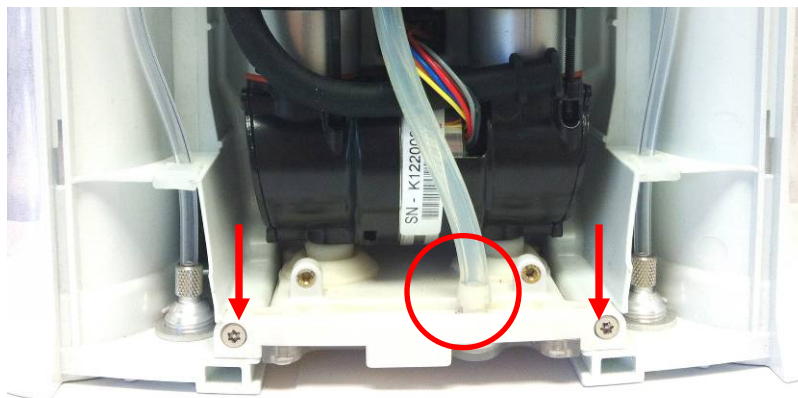
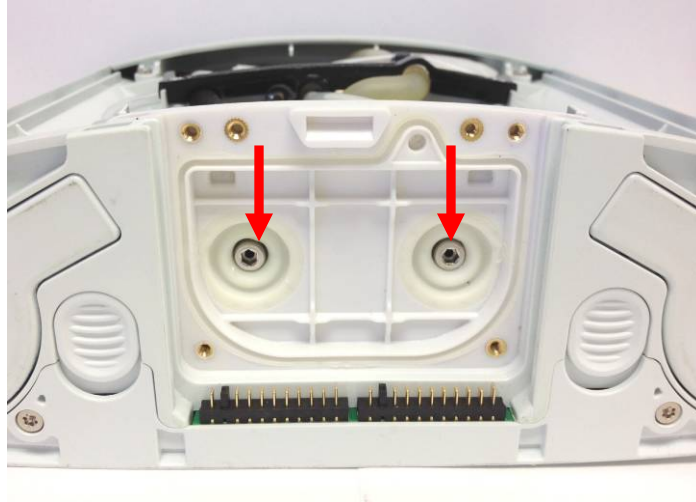

Figure 7: Front filter body screws and tubing
Figure 8: Compressor screws
3. Unscrew the two screws attaching the filter body to the chassis and unplug the tubing from the filter body (Figure 7). Plug this tube onto the same barb on the new filter body
4. Unscrew the two screws attaching the filter body to the compressor on the underside of the device with a 1/8" hex driver (Figure 8).
2. Reinstall the two screws connecting the filter body to the compressor, lightly tightening by hand (Figure 8). Also replace the two screws attaching the filter body to the chassis (Figure 7). Tighten these screws to 6 in-lbs.